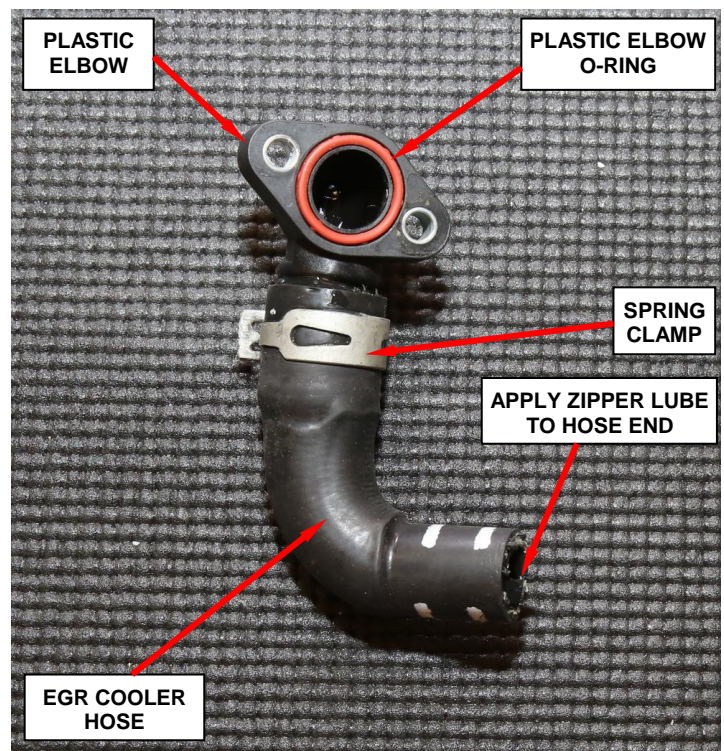

Figure 11 – Rubber O-ring
30. Verify that the rubber O-ring is in position on the plastic elbow (Figure 11).
31. Apply zipper lube to the EGR cooler hose end to help make installation easier (Figure 11).